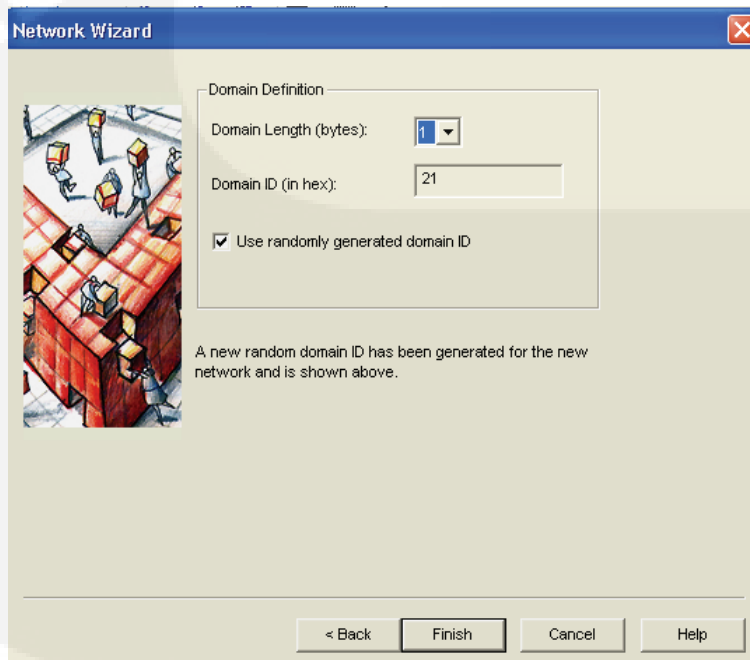

FIGURE 4-24. DOMAIN DEFINITION
10. Click **Next**. The box in Figure 4-24 appears.